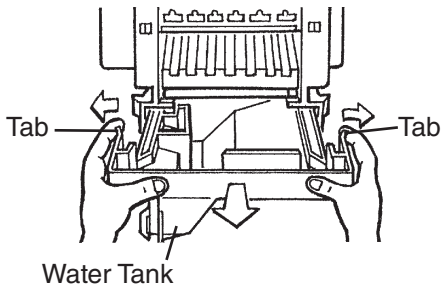

Fig. 40
- 5) Spread out the tabs to unlock the water tank, then slide it out. See Fig. 40.